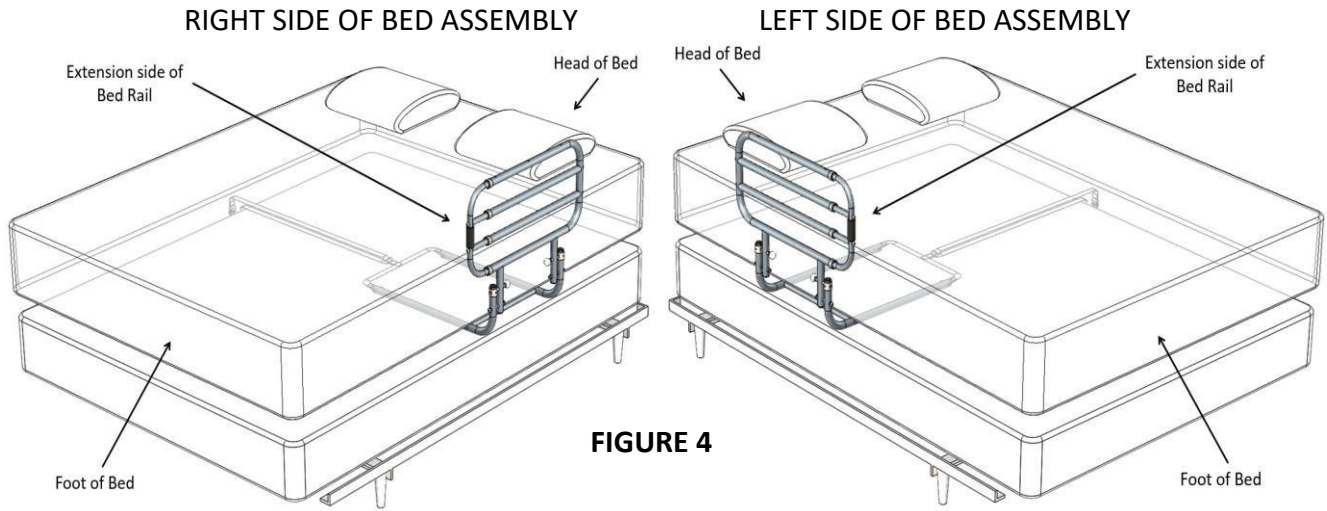

FIGURE 4
4. NOTE: There are two different directions the bed rail can be installed. The **EXTENSION SIDE OF THE BED RAIL** must be closest to the **FOOT OF THE BED** as shown in Figure 4.